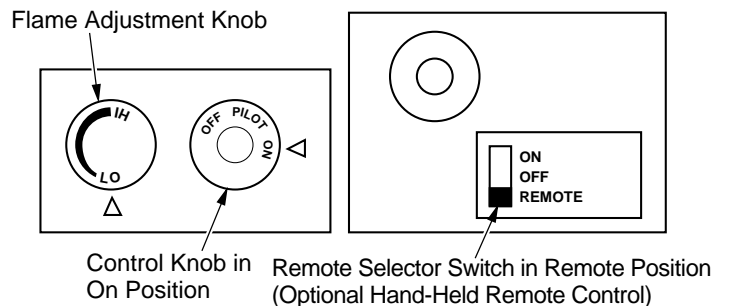

Figure 34 - Setting the Remote Selector Switch, Control Knob, and Flame Adjustment Knob for Remote Operation
- After lighting, let pilot flame burn for about one minute. Turn control knob to ON position. Adjust flame adjustment knob anywhere between HI and LO. Slide the selector switch to the REMOTE position (see Figure 34). **Note:** The burner may light if hand-held remote was on when selector switch was last turned off. You can now turn the burner on and off with the hand-held remote control unit.